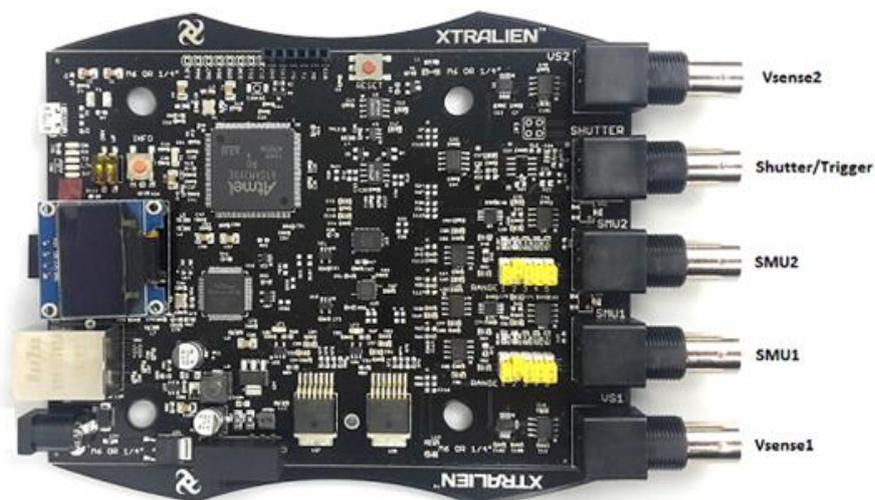

Figure 3.7. X100 Source Measure Unit, Vsense and shutter output connection ports.
- I. The SMU numbers are labelled on the board and highlighted in Figure 3.7.